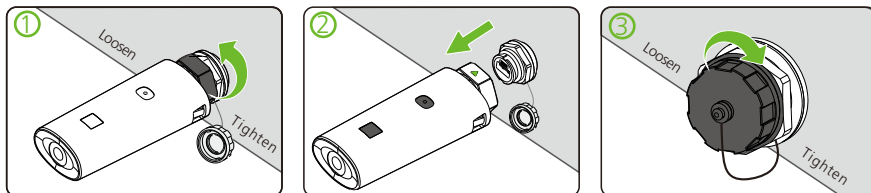

Fig 6.15B
- 3> As shown in Figure 6.15B, make sure that the Δ is facing upwards, insert the monitoring module into the USB interface, and tighten the lock.